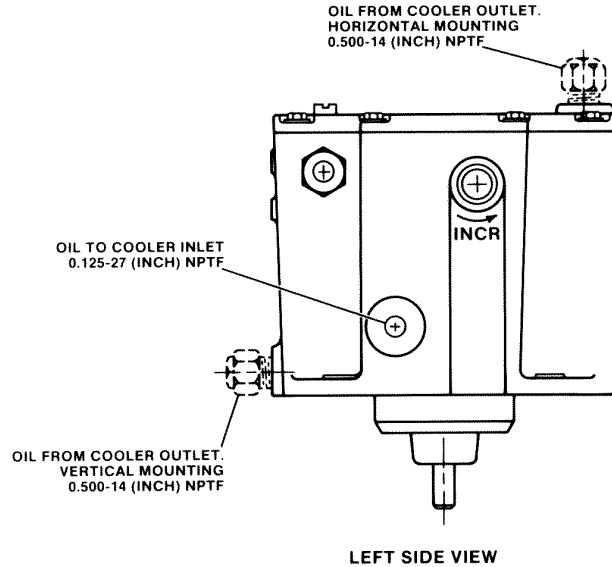
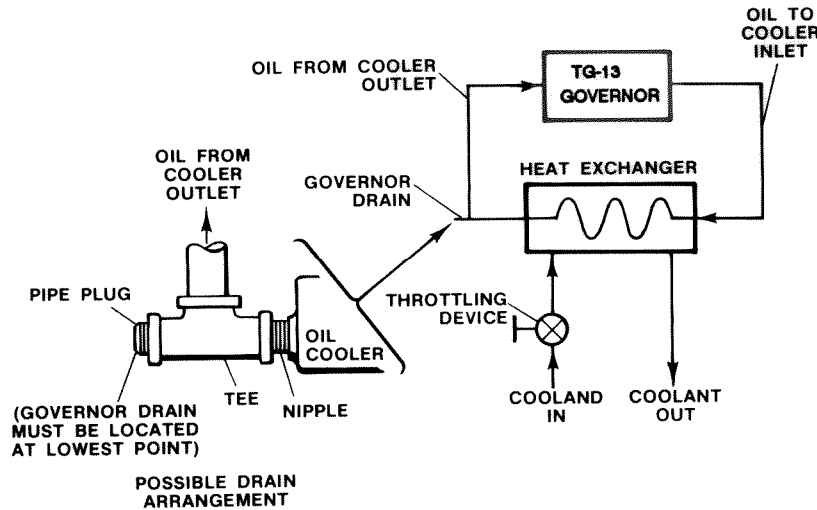

Figure 2-8. Heat-Exchanger Tap Locations
Figure 2-9. Heat-Exchanger Piping Schematic
**For horizontal operation, the TG governor must be installed with the oil sight gauge at the top of the governor, as shown in Figure 2-8.**
Make the required piping connections to the cooler and the governor (see Figure 2-9, which illustrates tap locations and piping connections). Notice in Figure 2-8, Heat-Exchanger Tap Locations, that there are two tap locations for the oil from the cooler outlet. Which tap location is used depends on the governor mounting position.
Pipe must be sized to minimize pipe-pressure losses, which must not exceed 103 kPa (15 psi). Oil flow from the oil to cooler inlet tap (0.125"-27 NPTF) on a governor operating at 6000 rpm and using a 0.188 thick gerotor pump (0.188 is standard thickness on high-speed governors) is 3.8 L/min at 1034 kPa (1 US gal/min at 150 psi). Install a governor oil drain in the oil-from-cooler outlet pipe at the lowest point in the system (see Figure 2-9).